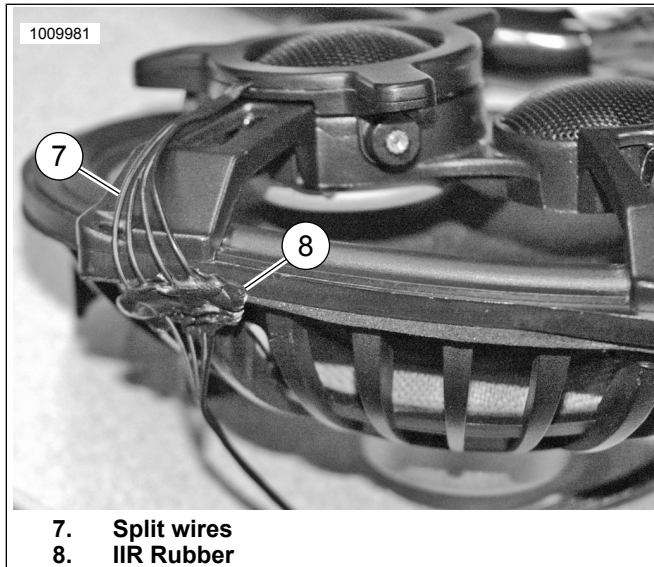

Figure 6.
12. Route the cable (4) along tweeter bridge leg. Using the tape (5) in kit, cut to length and secure cable to back of tweeter bridge. Locate area near light engine where wires are separated individually. See Figure 6. Verify this split wire (7) area is located on the speaker gasket. Place a small amount (pea size) of IIR rubber (8) strip over split wires at gasket area. Secure cable to back of speaker with cable strap.